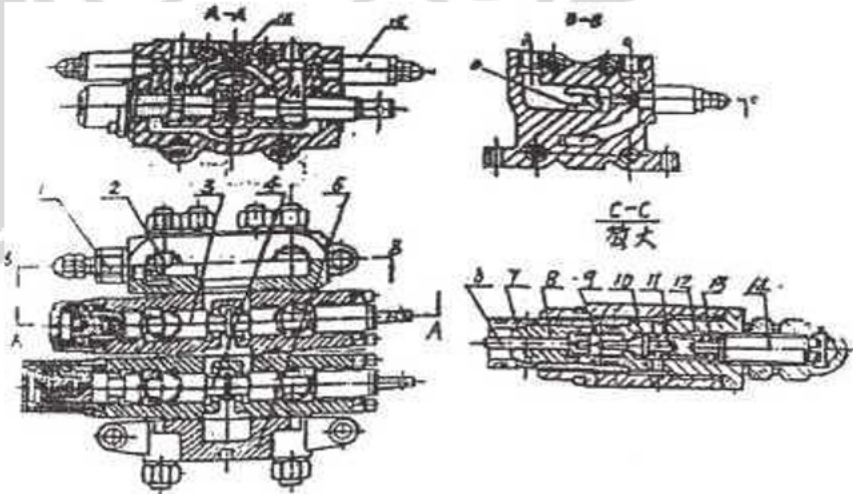

Figure 2-13; Multi-way Reversing Valve
1) Multi-way reversing valve (Figure 2-13): it is a separation multi-way reversing valve, composed mainly of the safety valve (1), filling valve body (2), tipper hopper's reversing valve (3), boom's reversing valve (4) and return valve body (5). Between the reversing valves of the tipper hopper and boom, the series-parallel connection is used to link the oil channel. The tipper hopper's reversing valve is the three-position valve with offsetting spring. It has Chambers Po, P, O and A, B. With the valve handle in the center, Po flows back to the oil tank via the oil duct between Chamber O (see Section A-A) and the valve handle. With the valve handle moved, the oil duct in the valve handle is cut off. When the oil pressure at the inlet of the multi-way valve rises, the high pressure oil of Chamber Po will open the one-way valve (16) to enter the two chambers P and then enters the operating chambers A or B, while the oil returning from the operating hydraulic cylinder will enter Chamber O and return to the oil tank.